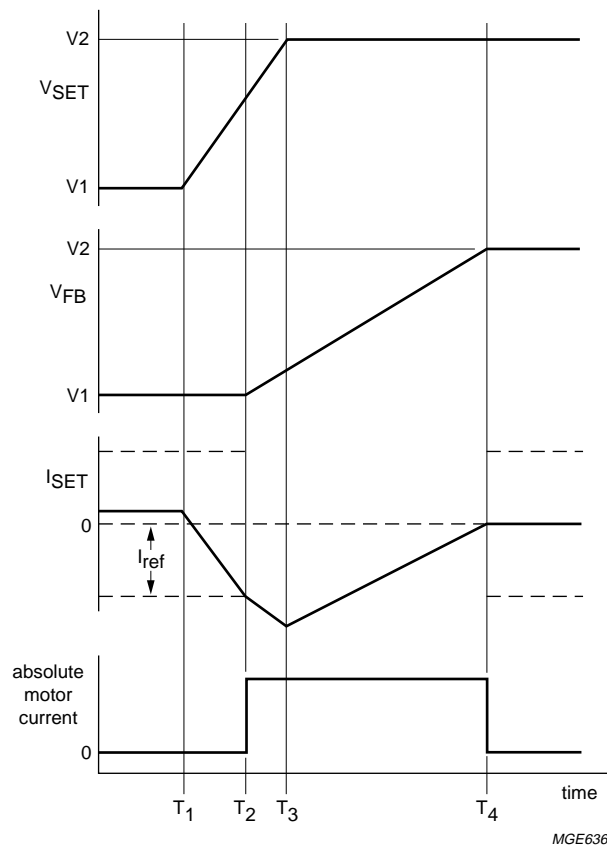
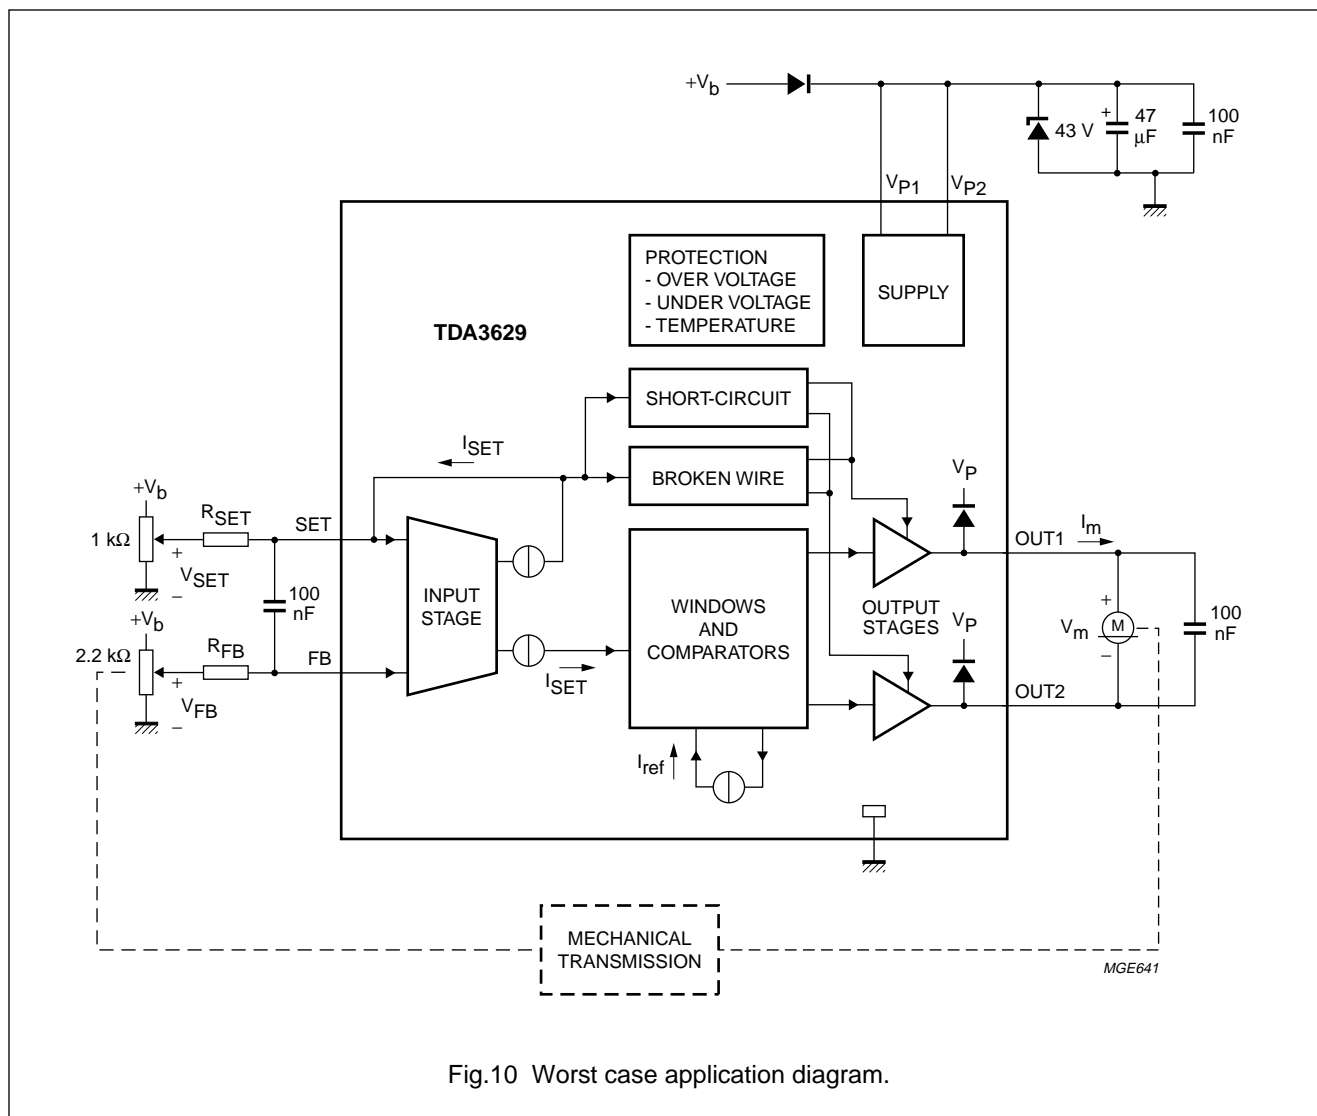

Fig.5 Timing diagram.
Fig.10 Worst case application diagram.
The timing can be divided into several parts starting from a steady state (see Fig.5, the starting point, and Fig.10 for the application diagram): in this state (until  $T_1$ ) a large reference current is active, indicated by the dotted lines. When the setting potentiometer is rotated (started at  $T_1$  and indicated by  $V_{SET}$ ) and the input current  $I_{SET}$  becomes higher than the reference current  $I_{ref}$  (at time  $T_2$ ), the motor will start and the input current will decrease. At the same time the reference current is switched to a low level. During rotation of the motor the input current will decrease until it becomes lower than this low reference current;
In accordance with the Absolute Maximum Rating System (IEC 134). All voltages are defined with respect to ground. Positive currents flow into the device. Values measured in Fig.10.
- Wave forms illustrated in Figs 7 and 8 applied to the application diagram, Fig.10.
$V_P = 12\text{ V}$ ;  $R_L = 14\ \Omega$ . All voltages are defined with respect to ground. Positive currents flow into the device. Values measured in Fig.10 with  $R_{SET} = R_{FB} = 20\text{ k}\Omega$ ; unless otherwise specified.
Worst case transients that may occur on the battery line  $V_b$  of the application (see Fig.10), are the pulses whose wave forms and the corresponding values are as illustrated in Figs 7 and 8. The signal source which generates these pulses (numbered pulses 1 and 2) has a series resistance ( $R_i$ ) of  $10\ \Omega$ . These pulses represent for instance the influence of switching of inductors on the battery line. The signal source which generates pulses 3 and 4 has a series resistance of  $50\ \Omega$ . These pulses represent for instance the influence of ignition on the battery line. Their repetition rate is 100 ms.
Two possible application diagrams are shown. The first (see Fig.9) shows the best case: the lowest component count. The second (see Fig.10) shows additional components which may be necessary. Two capacitors are added to meet EMC requirements (one on the  $V_P$  pins, the second one between the set and feedback input pins). A third capacitor has been added across the motor to suppress current spikes. The given values of these capacitors have to be optimized by experiments carried out on the total application. The resistors do not have to have the same value. The voltage hysteresis is set by means of  $R_{SET}$ .